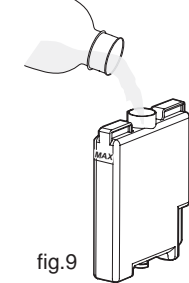

fig. 9
- Fill the water tank (fig. 9) with cold drinking water only, without exceeding the maximum level. The tanks contains approx. 2.3 litres.